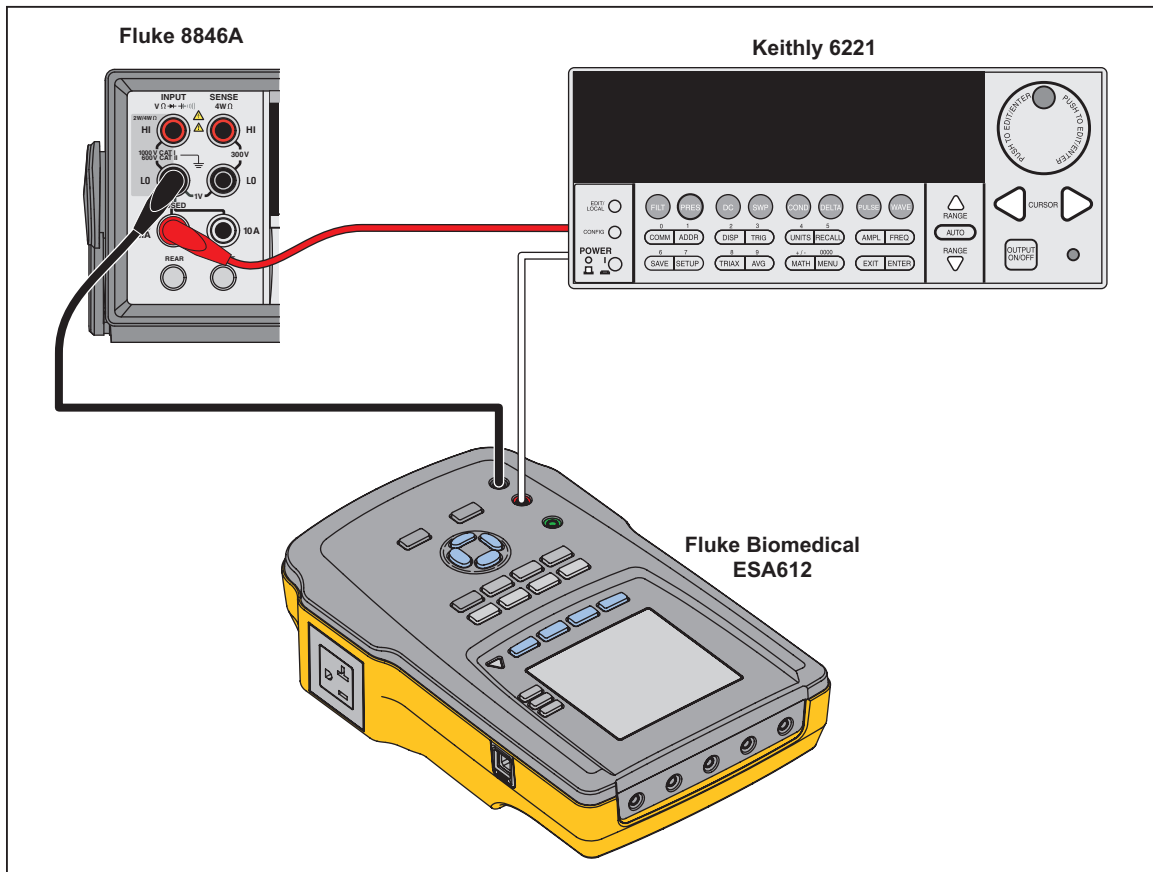

Figure 3-15. AC Leakage Filter Frequency Response Connections
1. Connect the current source to the red jack and the DMM 400 mA current input jack. Connect the DMM Input (-) to the black jack. See Figure 3-15. Set the current source to 1.000 mA (1.4142 mA p-p), 60 Hz, with a 25 V compliance voltage, and the DMM to the 1 mA ac range.